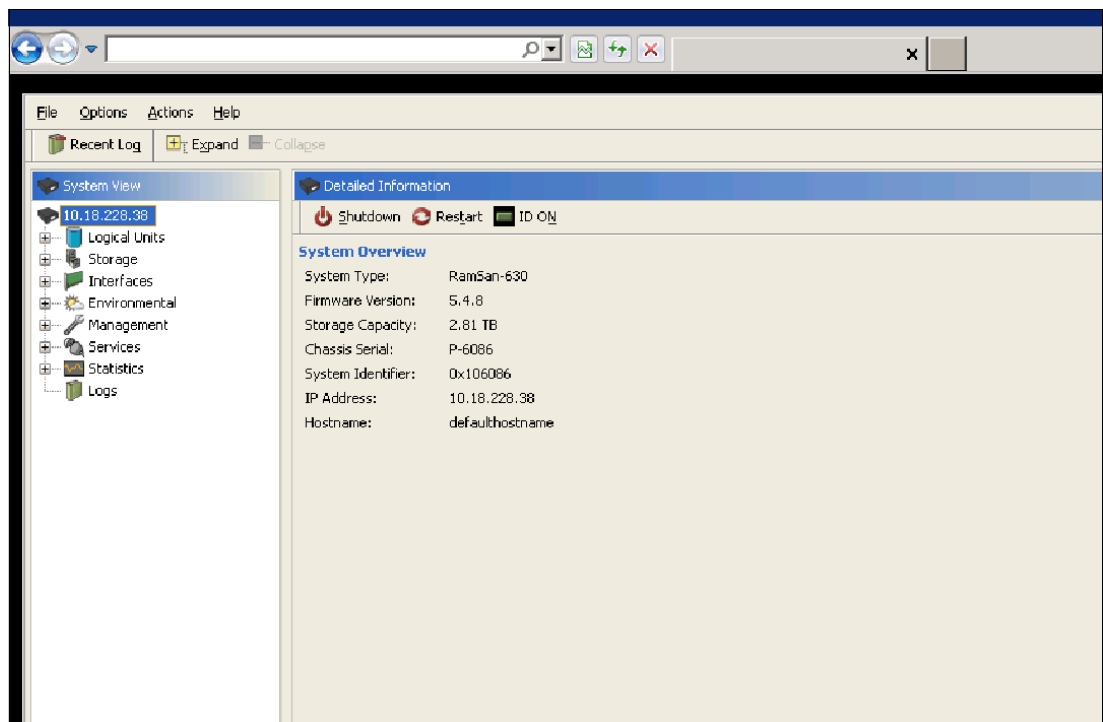

Figure 5-2 IBM FlashSystem Main GUI window
2. Enter the login and password, and click **OK** to log in. For IBM FlashSystem storage systems, the default login is admin and the default password is password. Upon successful authentication, the main GUI window opens, as shown in Figure 5-2. Change and record the default password.